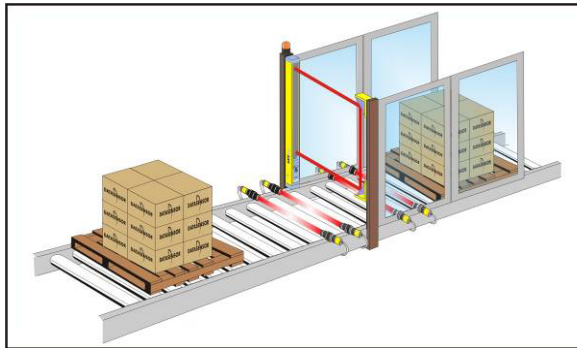

Fig. 29
- The Muting function, excludes the light curtain during functioning, maintaining active the OSSD outputs, according to particular operating requirements (Fig. 29).